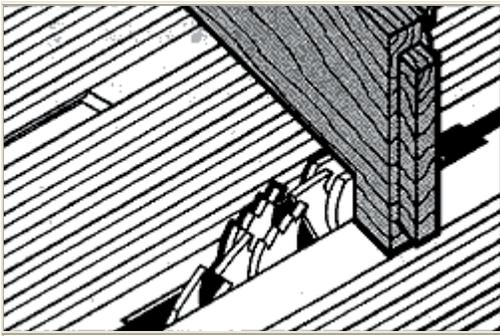

Figure 5. Cutting the opening for drop-leaf supports 1/2 of the depth at a time.
Next, drill 3/8" screw pockets (Fig. 5) in sides (B) and back (E) to hold the top in place. (The table base and top form a simple butt joint and need this reinforcement.)
Fig. 5 Drilling screw pockets in sides. Drilled at 10° with a 1/2" brad point bit, to within 3/8" of the bottom. Use a 1/4" brad-point bit to make pilot hole for the #12 roundhead screws.